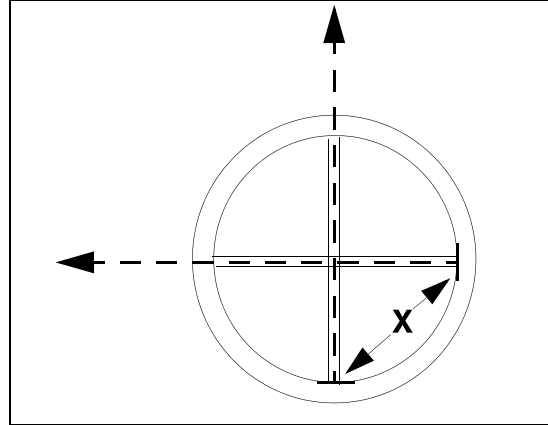

Fig. 2: Laser light fan beam
- Turn the diodes in the holder until the laser light fan beams are reflected on the I.I. as shown in (Fig. 2 / p. 9). The laser light fan beams start at (X/Fig. 2 / p. 9). This setting ensures that the laser light fan beams cross near the laser light localizer.